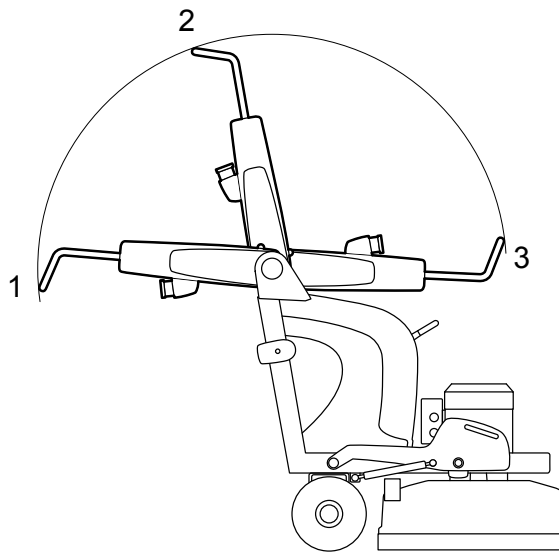

Figure 4-2 Handle settings
1. Set the handle to the rear position - see Figure 4-2 on page 17
4. Set the handle to the working position, see Figure 4-2 on page 17.